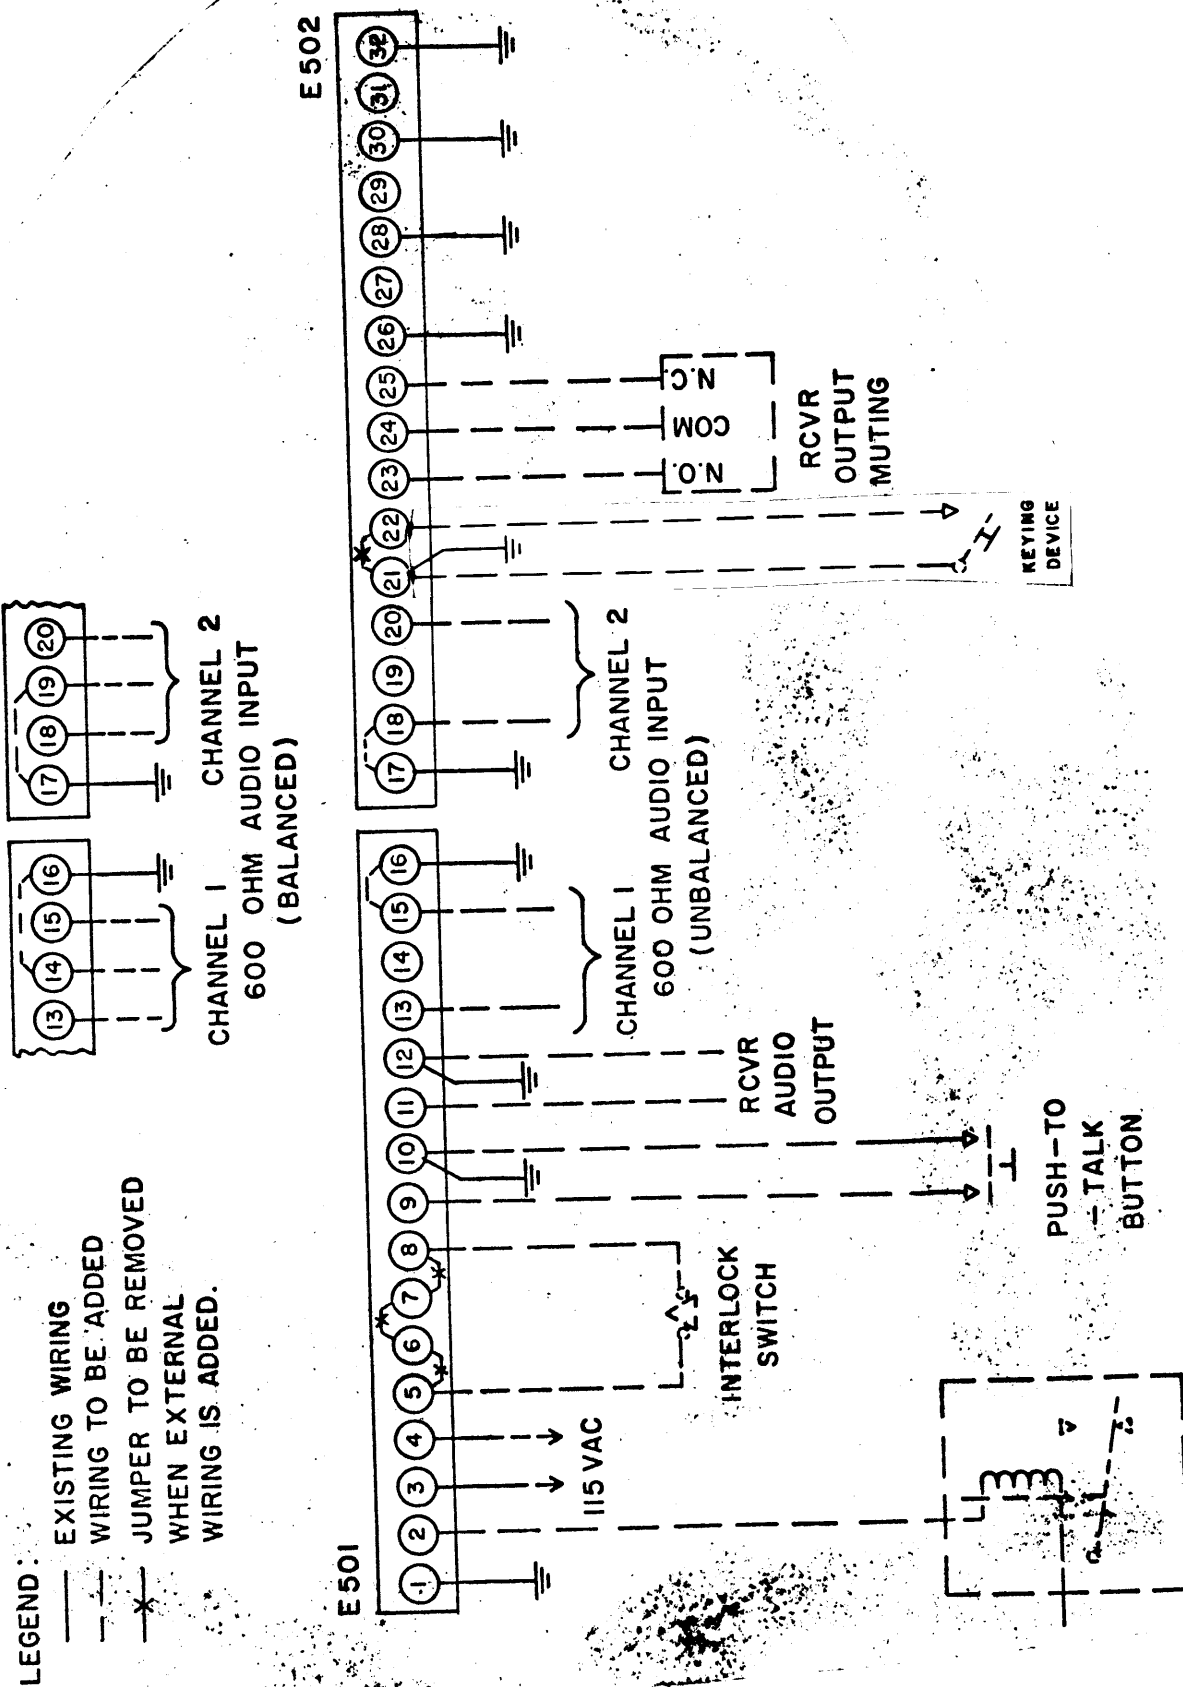

Figure 2-6. Connection Diagram, External Equipment to SBT-1KA6.
b. INSTALLATION OF MODULAR UNITS. - Refer to figure 2-6 for information regarding cabinet location of all modular units.
(1) GENERAL. - Auxiliary Power Panel APP- is a standard modular unit present in all SBT-1K transmitters. Besides functioning as a distributor for line voltage, the APP- provides two terminal blocks to facilitate connection of external equipment to transmitter. Except for the MIKE connection on Exciter Unit SBE, all external connections may be made at terminal blocks E501 and E502 located at the rear of Auxiliary Power Panel APP- . Figure 2-6 and the following paragraphs illustrate the possible external connections to SBT-1KA6. Schematic diagrams in the individual modular-unit manuals should be used as an aid for tracing wiring.
(2) REMOTE TRANSMITTER PLATE RELAY - Terminals 1 and 2 of E501 are provided for attachment to the coil of a relay supplying plate voltage to an additional stage of RF amplification external to the SBT. This enables control of the entire transmitter at the SBE by means of the XMTR OFF/ON switch. such a relay is sometimes employed in transmitter systems of which SBT is a sub-assembly.
(3) REGULATED 115VAC - Terminals 3 and 4 are available for an extension source of the regulated 115VAC used in the PS-4A unit.
(4) EXTERNAL INTERLOCKS - Terminals 5, 6, 7 and 8 are provided for con-
(5) PUSH-TO-TALK SYSTEM - Terminals 9 and 10 are provided for a push-to-talk button attachment. A push-to-talk system may be used in lieu of or along with the voice-operated (VOX) circuit available in the SBE-8 unit.
(6) RECEIVER SQUELCH - Terminals 11 and 12 are provided for the attachment to receiver audio output, if receiver "squelch" is desired when using the VOX (voice-operated) feature in the SBE-8 unit. Receiver squelch is used in order to prevent sound from a nearby receiver or other source from automatically actuating the VOX circuit.
(7) AUDIO INPUT - CHANNELS 1 and 2 - Terminals 13 through 20 are provided for the attachment of two separate sources (or channels) of intelligence in the form of 600-ohm audio. Figure 2-6 illustrates connections for either balanced or unbalanced inputs.
(8) KEY LINE - Terminals 21 and 22 of terminal block E502 are provided for the attachment of a keying device in CW mode of transmission. Pushing down on key grounds the cathode circuit of first r-f amplifier V118 in Exciter Unit (SBE-8) enabling it to operate.
(9) RECEIVER MUTING - Terminals 23, 24 and 25 are provided for a receiver muting feature. The purpose of this feature is to automatically disable the receiver when the transmitter is sending and enable it when the transmitter is in OFF or STANDBY condition. This automatic feature may be had along with a common antenna by the addition of a Tone Intelligence Unit, Model TIS-3A and modifications of interconnections. The addition of the TIS-3A unit allows this system to operate FSK and FAX and provides circuitry to CW Key the input applied to the SBE (See paragraph 2-3 f). The other modifications are rewiring the existing equipment. The system described in paragraphs 2-3 h and 4-2 b is a manually operated T/R control system.